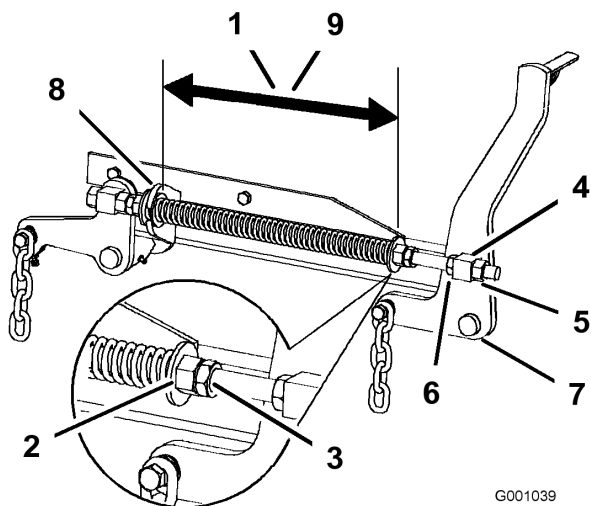

Figure 73
2. Check the distance between the two large washers, it needs to be 11-1/8 inches (28.2 cm) for 52 inch mower decks and 10-1/2 inches (26.7 cm) for 60 inch mower decks (Figure 73).
3. Adjust this distance, by loosening the spring jam nut and turning the nut in front of each spring (Figure 73). Turning the nut clockwise will shorten the spring; counter-clockwise will lengthen the spring.
4. Lock the nut into position by tightening the spring jam nut (Figure 73).